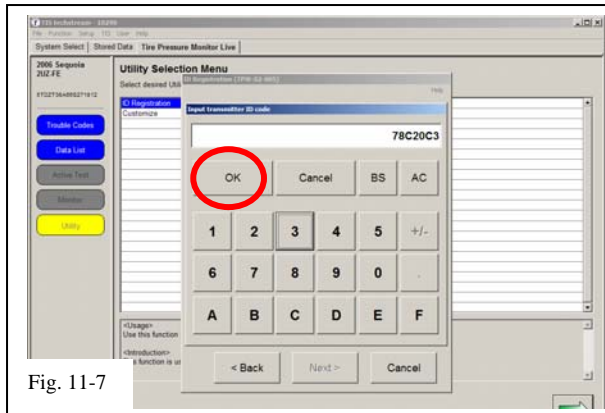

Fig. 11-7
- (j) Input the TPMS ID code then click “OK” Repeat the same procedure for all other TPMS ID codes. (Fig. 11-7)